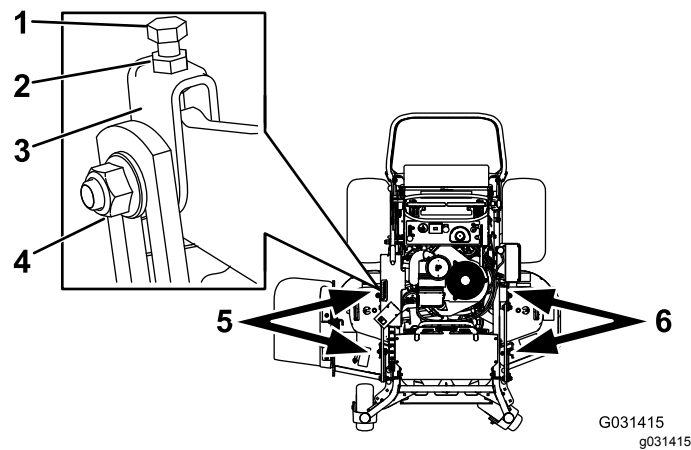

Figure 79
- Loosen the side nut and jam nut in the yokes you want to adjust (Figure 79).
- Rotate the top bolt of the yokes to adjust the height of the mower deck (Figure 79).